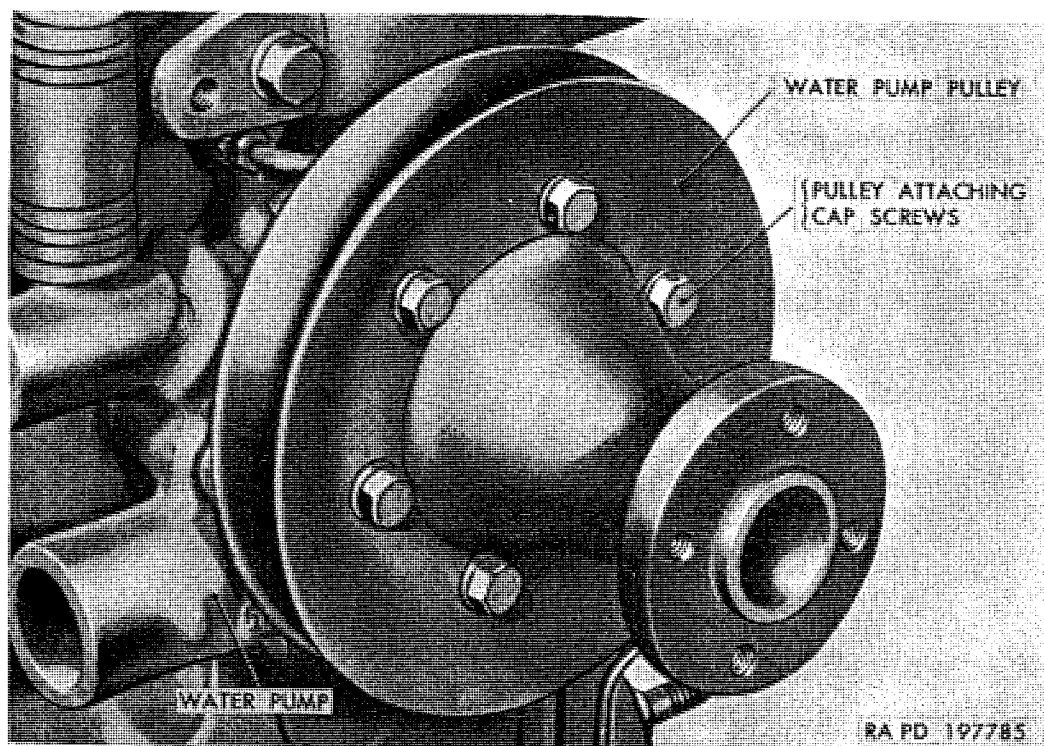

Figure 143. Water pump pulley installed.
- (1) *Removal.* Remove fan blades (par. 145*d*). Loosen fan belt (par. 145*b* (1)) until belt can be lifted from pulley. Remove six cap screws and lockwashers attaching pulley (fig. 143) to hub; then remove water pump pulley.
- (2) *Installation.* Position water pump pulley (fig. 143) to fan hub; then install six $\frac{5}{16}$ -18 x $\frac{5}{8}$ cap screws and $\frac{5}{16}$ -inch lockwashers. Tighten cap screws to 12 to 18 pound-feet torque. Locate fan belt in pulley sheave and adjust belt tension (par. 145*b*). Install fan blades (par. 145*d*).
- (1) Coat water bypass inlet elbow (L) threads with joint and thread compound; then install elbow tightly into water pump. Install water bypass hose (N) to inlet elbow (L), but do not tighten hose clamps (M) until pump is installed.
- (2) Using a new water pump to cylinder block gasket, locate pump assembly in position on engine, directing water bypass hose (N) into thermostat housing water bypass tee (A). Place a $\frac{3}{8}$ -inch lockwasher on $\frac{3}{8}$ -16 x $1\frac{7}{8}$ slotted-head bolt (K), and install bolt at right side of water pump. Install one $\frac{3}{8}$ -16 x $1\frac{3}{8}$ cap screw (G) with $\frac{3}{8}$ -inch lockwasher at upper left side of water pump. Install two $\frac{3}{8}$ -16 x $1\frac{1}{4}$ cap screws (H) with $\frac{3}{8}$ -inch lockwashers into lower holes of water pump. Tighten the four cap screws and bolt to 20 to 30 pound-feet torque. Mount pulley on flange at rear of pump hub, using six $\frac{5}{16}$ -inch lockwashers and $\frac{5}{16}$ -18 x $\frac{5}{8}$ cap screws (fig. 143). Tighten cap screws to 12 to 18 pound-feet torque.
- (3) Attach radiator outlet hose to water pump inlet (J); then tighten hose clamps. Tighten water bypass hose clamps (M).
- (4) Install fan belt (par. 145c(2)) and adjust (par. 145b). Install fan blades (par. 145d). Fill cooling system (par. 142a); then start and warm up engine. Inspect hose and water-pump-to-cylinder block gasket for leaks.